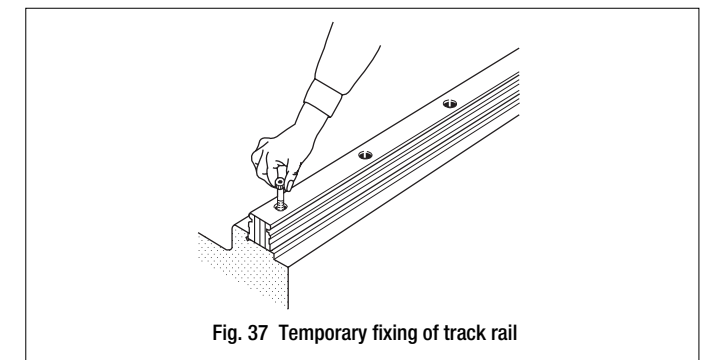

Fig. 37 Temporary fixing of track rail
- Correctly fit the reference mounting surface of Linear Way I track rail onto the mating reference mounting surface of the bed, and temporarily fix the track rail with mounting bolts. (See Fig. 37.)